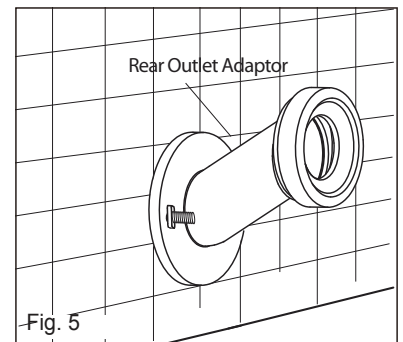

Fig. 5
3. Position rear outlet adaptor onto "T" bolts and secure onto foam gasket with nuts as detailed in Fig.5.